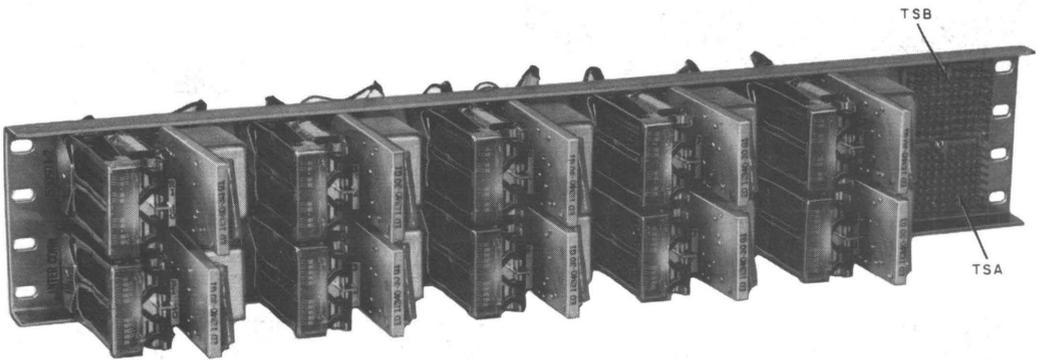

Fig. 34—J53050J Interconnecting Unit
**2.35 J53050J Interconnecting Unit**—Provides an interface between a CO secretarial line and a one-way circuit associated with the CPE. The apparatus is mounted on a 4- by 23-inch mounting plate and is intended to be relay rack mounted. One J53050J,L1 will accommodate up to ten CO lines. (See Fig. 34.)